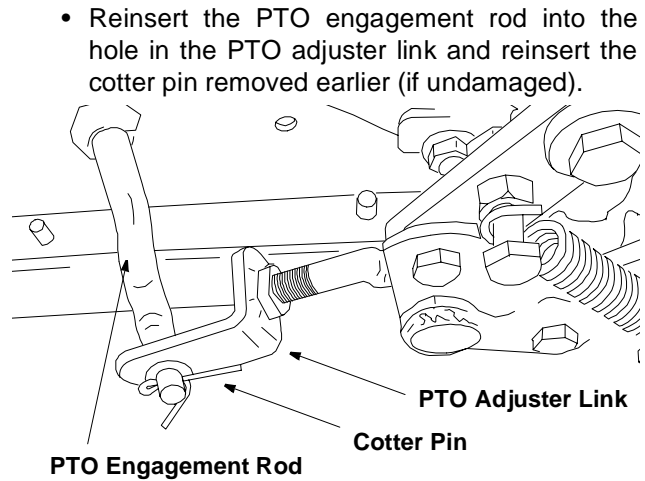

Figure 12
- Locate the PTO engagement rod and the PTO adjuster link by looking at the tractor's underside. See Figure 12.
- Remove the cotter pin that affixes the lower end of the PTO engagement rod to the PTO adjuster link. Save the pin. See Figure 12.